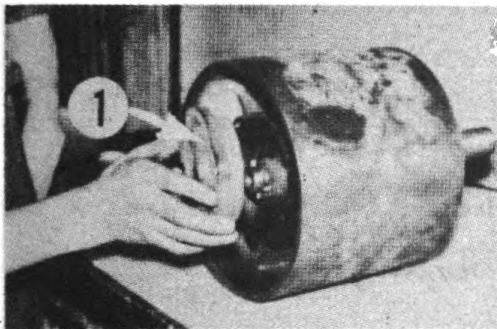

Figure 3. REMOVING CLOSED COVER
5. Bolt on closed cover (1). See Figure 3.